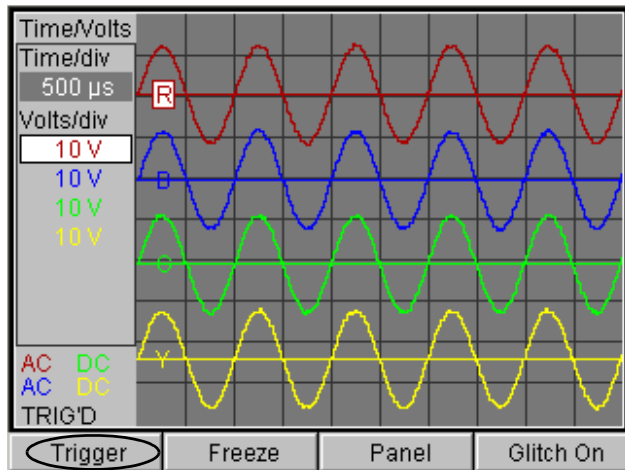

Figure 7.27: Lab Scope Screen, DMM Off - Trigger Function Key
- d Repeat b and c for each waveform color until all the lines are positioned where you want them (see Figure 7.27 on page 62).